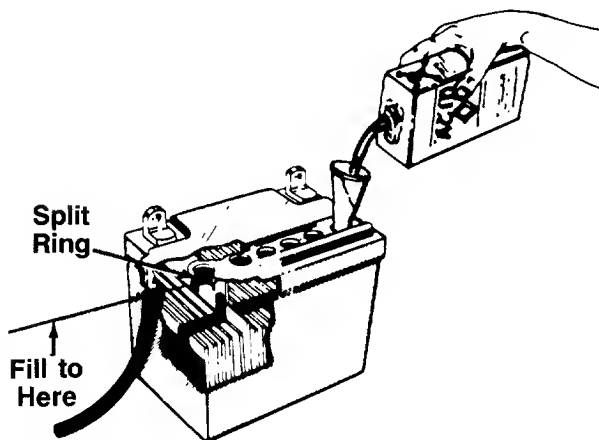

FIGURE 2.
6. Fill each battery cell slowly and carefully to the split ring at the bottom of the well. See figure 2. Use caution as the acid level will rise rapidly after the bottom of the cell is filled. DO NOT OVERFILL.